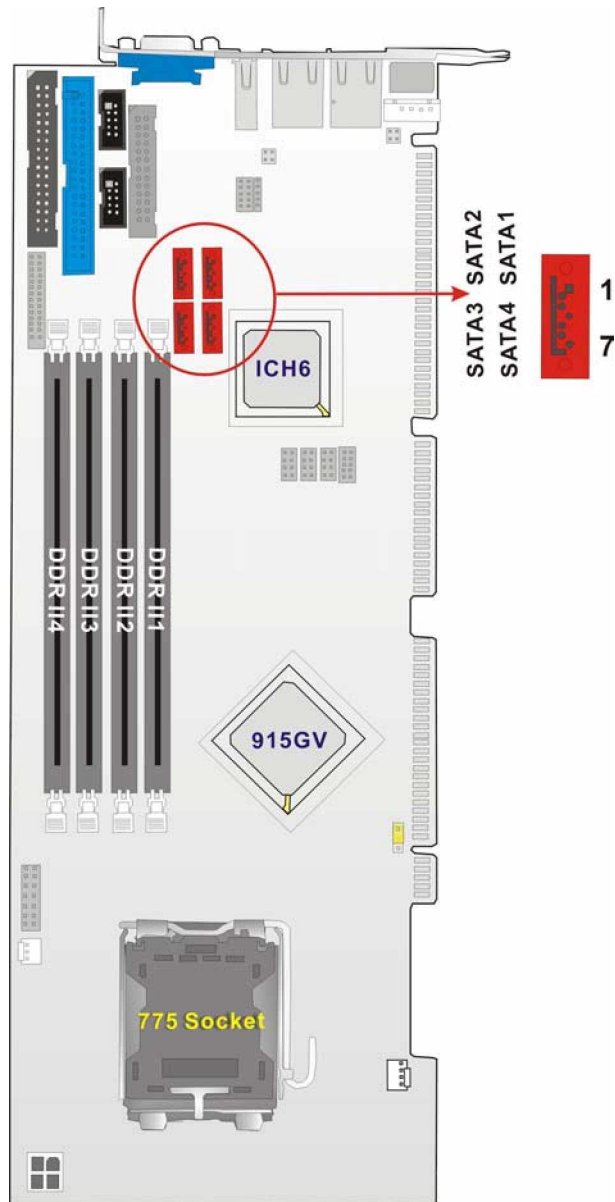

Figure 3-12: SATA Connector Locations
**CN Location:** See Figure 3-12